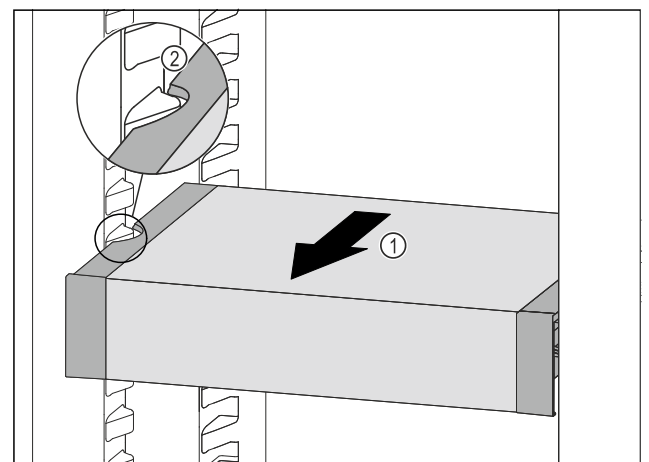

Fig. 98
- ▶ Pull VarioSafe forwards Fig. 98 (1) until the recesses in the side of the VarioSafe are at the level of the support rib in the fridge section. Fig. 98 (2)